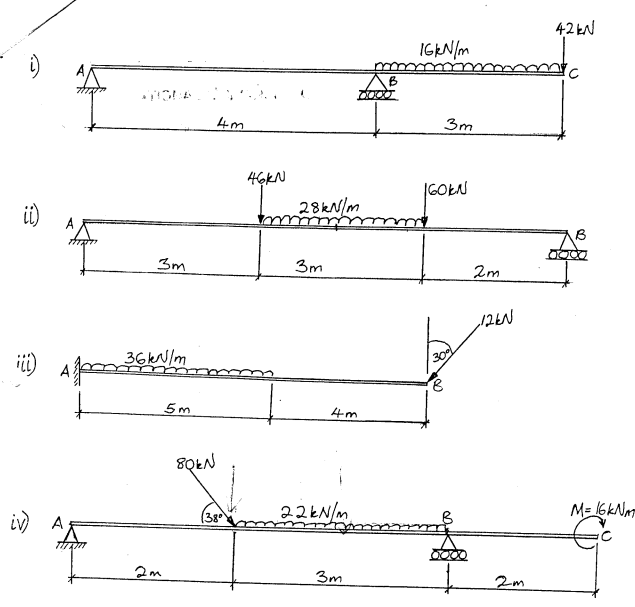

Fig 1.1a
- a) For the structures illustrated in Fig 1.1a) below determine all the reactions at the supports.
- b) For Fig 1.1a) i) above, what does the reaction at 'A' signify?